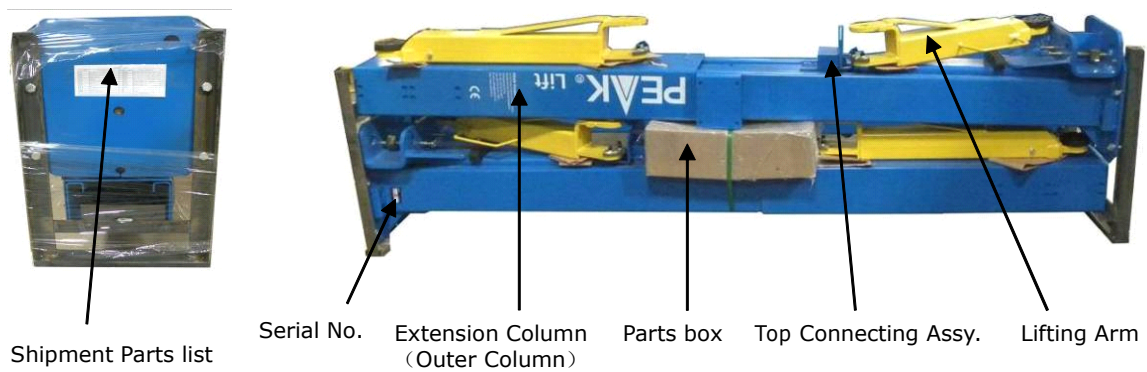

Fig. 7
2. Move aside the lift with fork lift or hoist, and open the outer packing carefully (See Fig.7).